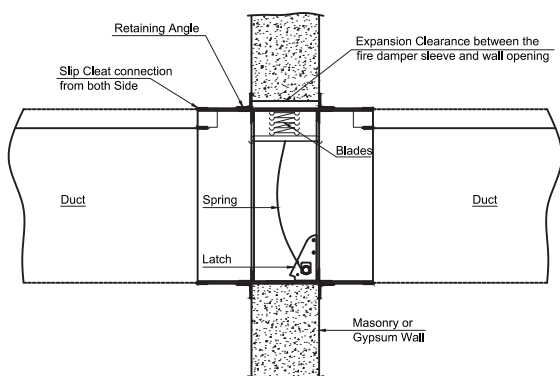

Fig: 3
7. Damper to Duct Connection: Damper has to be connected to duct as per the fig : 3